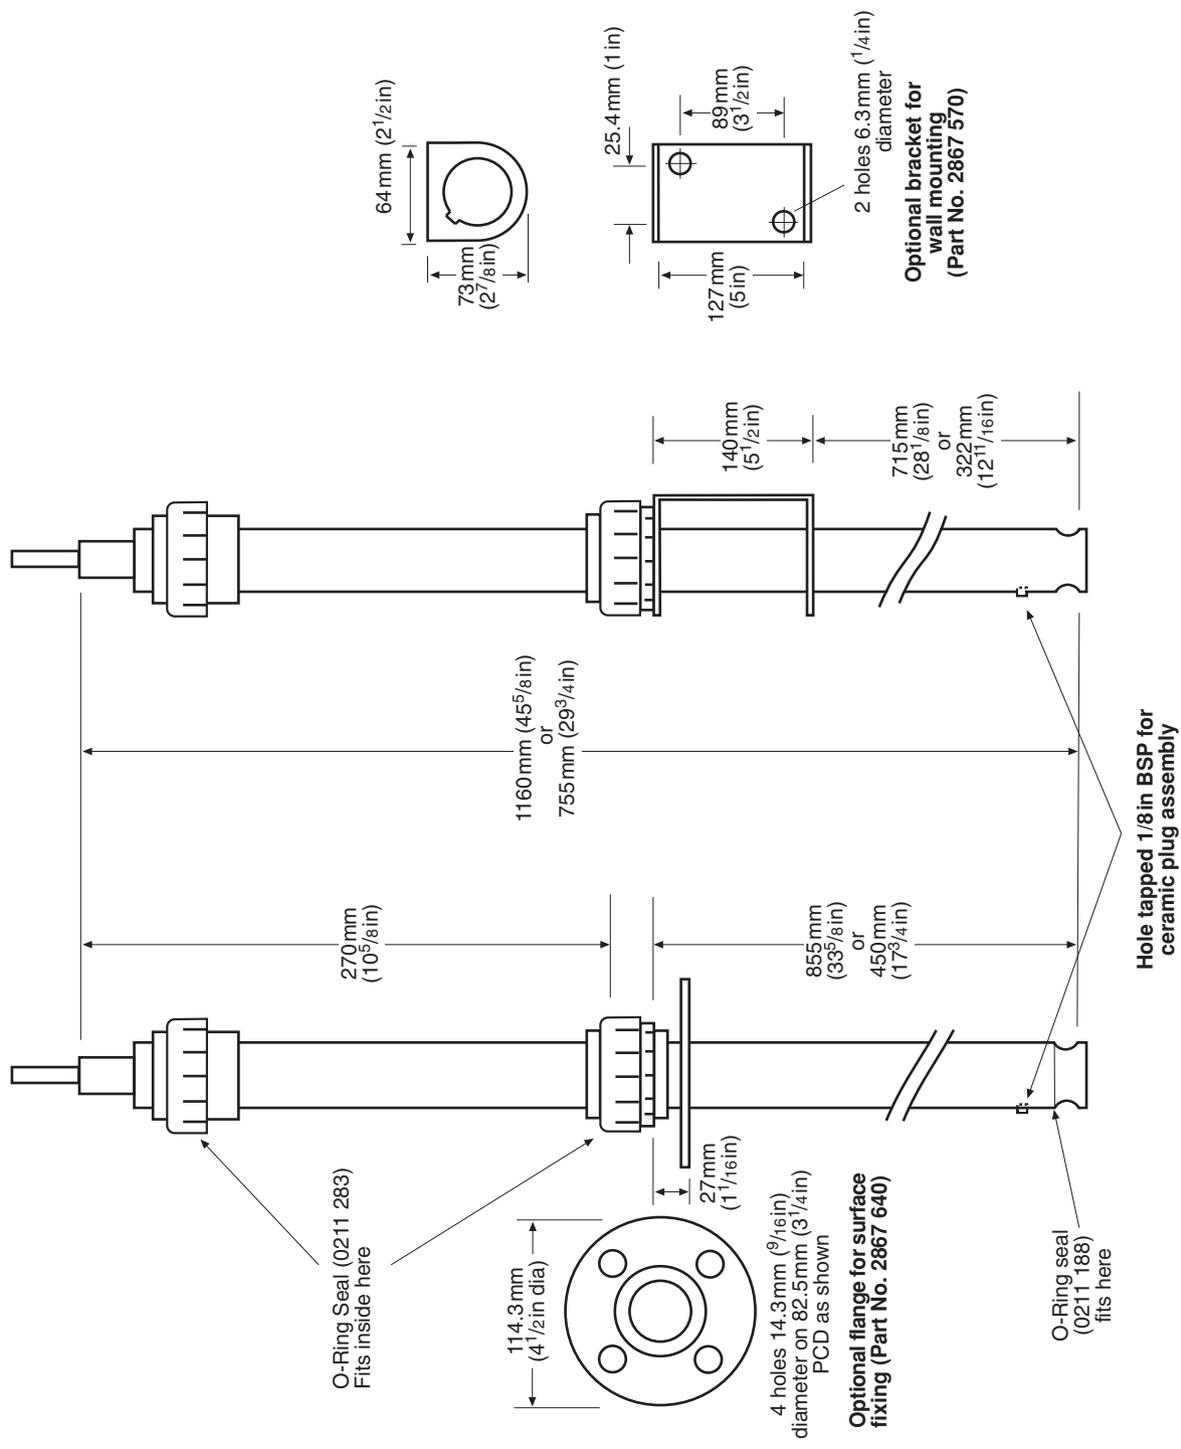

Fig. 1 Model 2867 Installation Diagram
- b) Fit the smaller of the ceramic plugs to the side of the electrode system tube (See Fig. 1) using the special wrench supplied in the accessory kit. If the sample causes blockage of the ceramic, replace the plug with the larger one, which will allow a higher flow of salt bridge solution.